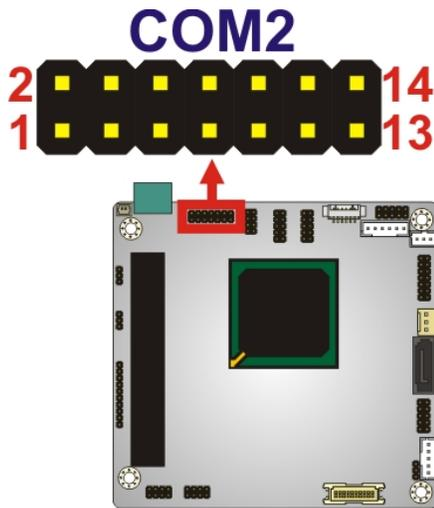

Figure 3-17: Serial Port Connector Location (COM2)
- CN Location:** See **Figure 3-17**